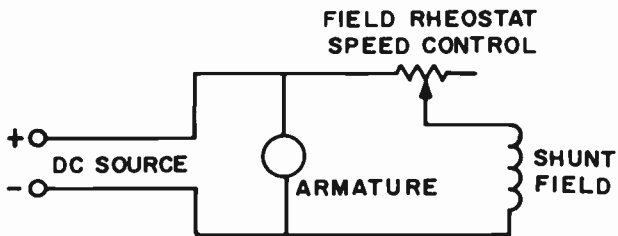

FIG. 5-9A. A SHUNT WOUND DC MOTOR.
**4 SHUNT MOTORS.** Fig. 5-9A illustrates the basic schematic of a shunt-wound DC motor. The field is parallel to the armature and both are parallel to the DC source. This is similar to the shunt-wound generator, with the exception that the DC source has replaced the load of the generator.